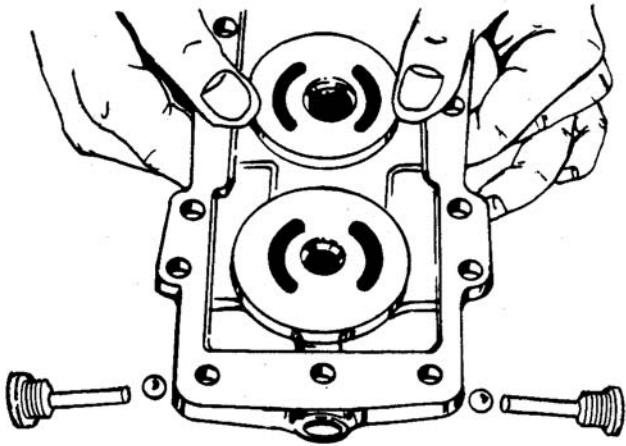

Figure 6-33. Ball and Spring Removal
- c. Remove balls and springs from both sides. See Figure 6-33.